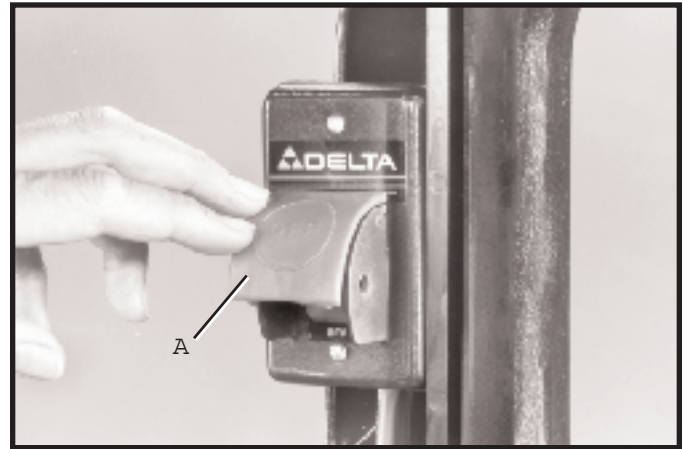

Fig. 34
2. To turn the band saw OFF , simply push down on the switch shield (A) Fig. 34.